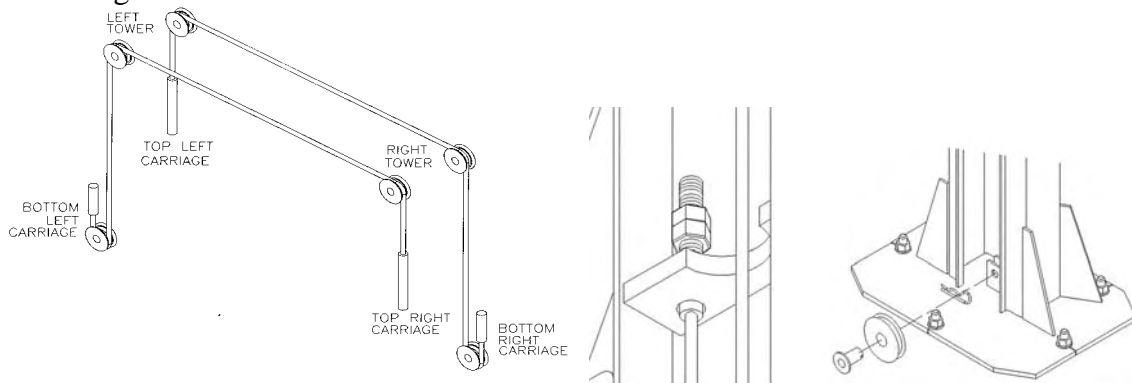

Figure 6a
2. Remove equalizing cables from the accessory kit box, and then locate the (8) ½”-13UNC nuts from a polybag in the hardware kit box.
3. Equalizing cables are to be routed as shown in **Fig. 6a**. Using the first cable, insert the short threaded stud through the 9/16” dia. hole at the bottom of the carriage, and feed upwards until the stud comes through the top of the carriage. Place a ½”-13UNC nut at the center of the stud, and then **firmly tighten** a second nut up against it using two wrenches. Pull the cable back down through the bottom of the carriage. (**Fig. 6b - cross-sectional view of bottom of carriage**).
4. At the bottom of the column, remove the hitch pin, pulley pin and pulley from the baseplate (**Fig. 6c**). Route equalizing cable around pulley and reassemble the pulley to the baseplate. **IMPORTANT – Hitch pin must be installed securely**. Then route the cable up through the carriage, around the pulley at the top of the column, across the crossmember, around the pulley at the top of the other column and then down (**Fig 6a**). Insert the threaded stud into the 9/16” Dia. hole in the top of the other carriage.